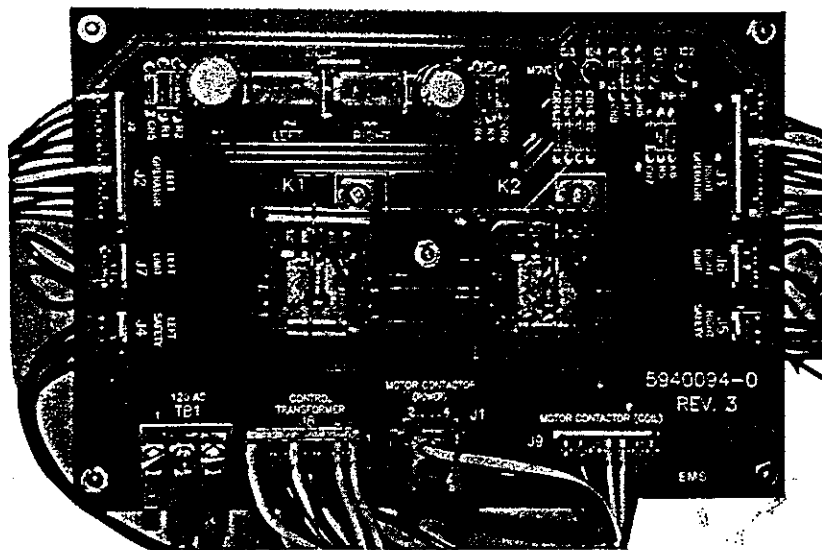

Figure 4.2.
STEP 4.2: Check left J4 and right J5 safety connection on the circuit board by removing both wires. Take a screw driver and jump across the exposed pins at J4/J5 and safety light should go out. If red light remains on, change safety left relay K1 and/or safety right relay K2 as required. If both red lights remain on, replace the circuit board. See Figure 4.2.